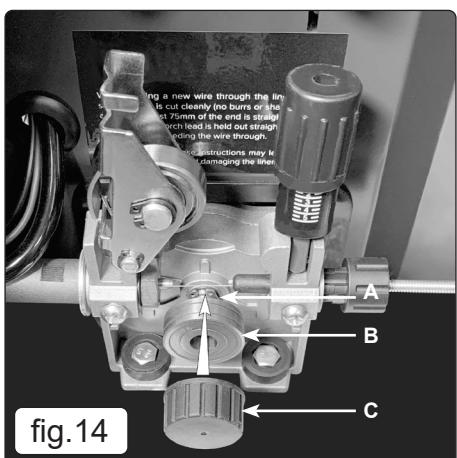

fig.14
4.16. TURNING/CHANGING THE DRIVE ROLLER (See fig.14)
4.16.3. Referring to fig.14, loosen and unscrew the black feed roller retaining knob (C) and put to one side.